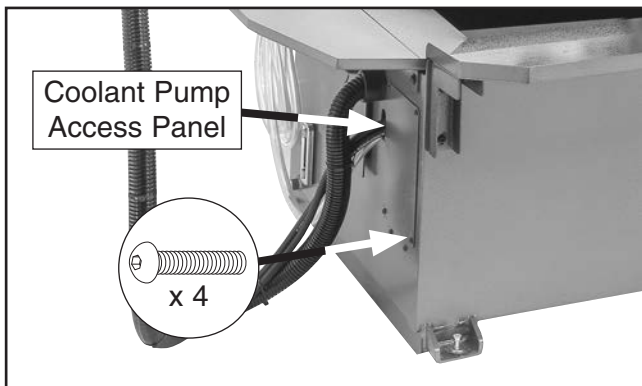

Figure 92. Coolant pump access panel removed.
4. Remove coolant pump access panel (see **Figure 92**).